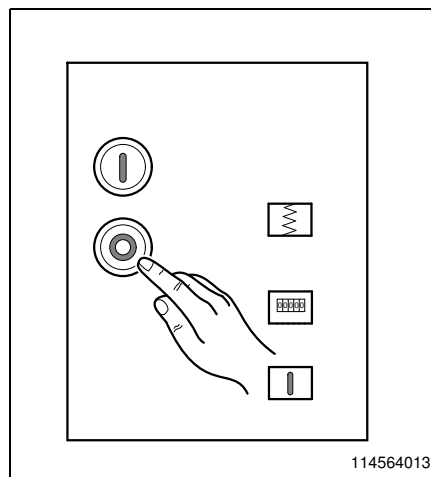

Fig. 17
- Press push-button OFF (Fig. 17).